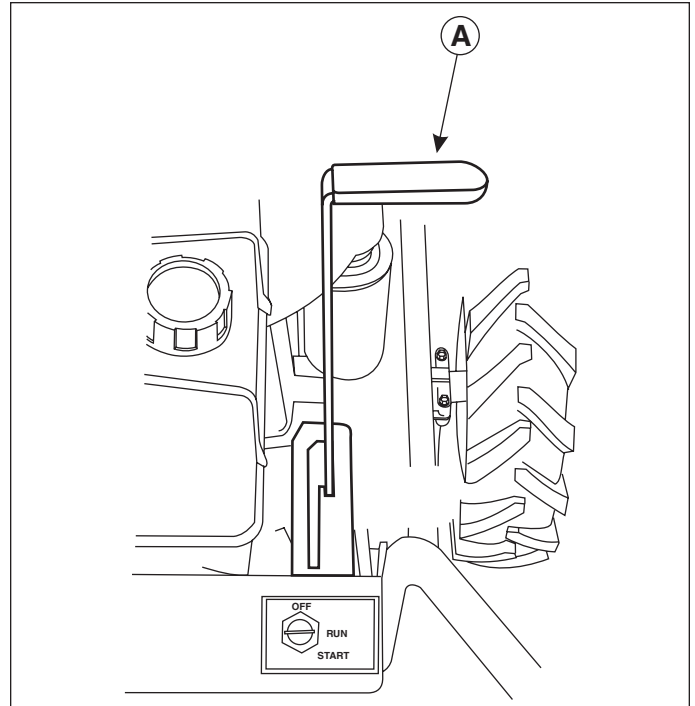

Figure 7 - PTO Engaged
- Push Blade Engagement Lever forward and then to the right until lever locks into place (Figure 7).